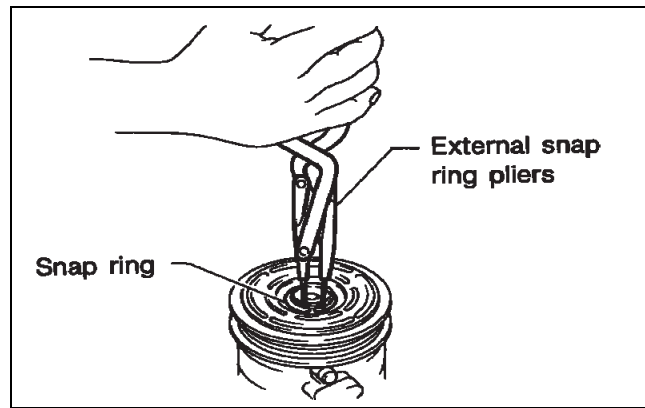

Figure 5
3. Remove the snap ring using a suitable tool as shown (Figure 5).